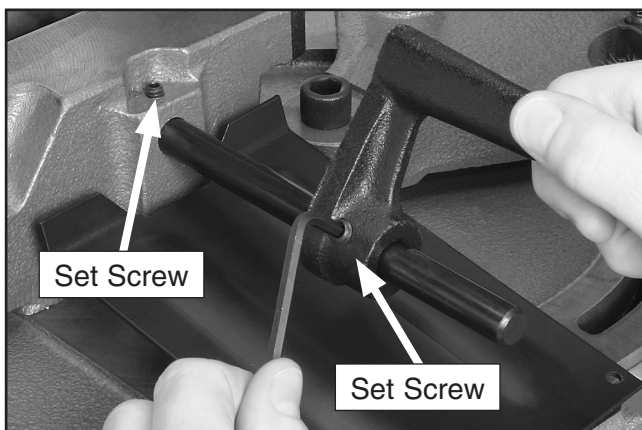

Figure 15. Installing stop rod.
3. Using the 4mm hex wrench, tighten the set screw shown in **Figure 15**.